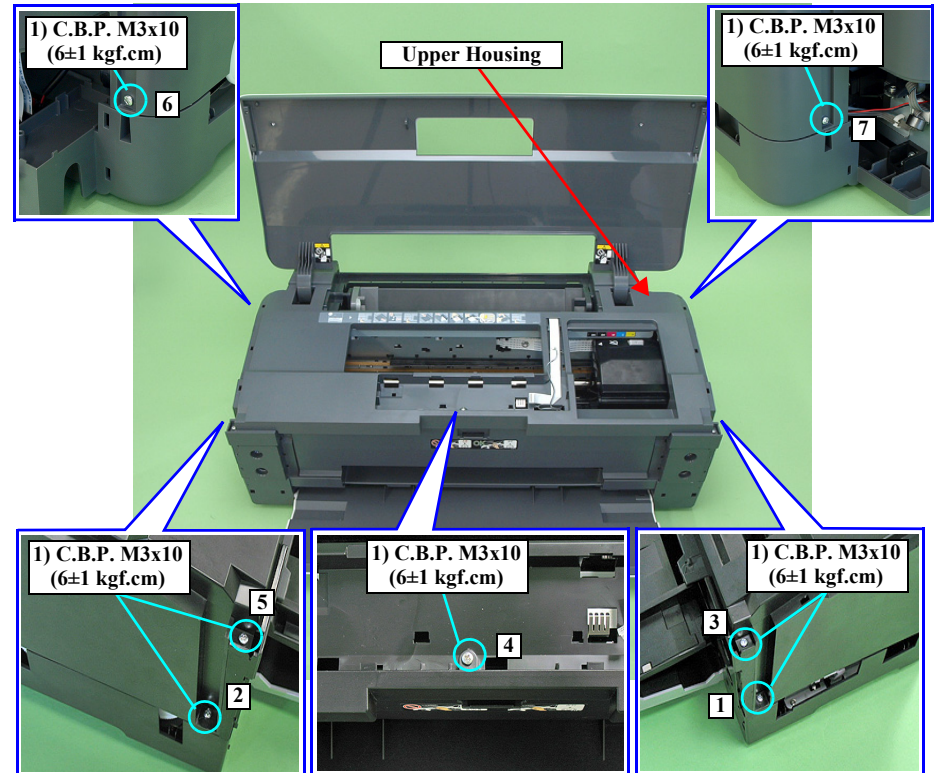

Figure 8-15. Remove the Upper Housing
- Tighten the screws in the order shown in *Figure 8-15*.